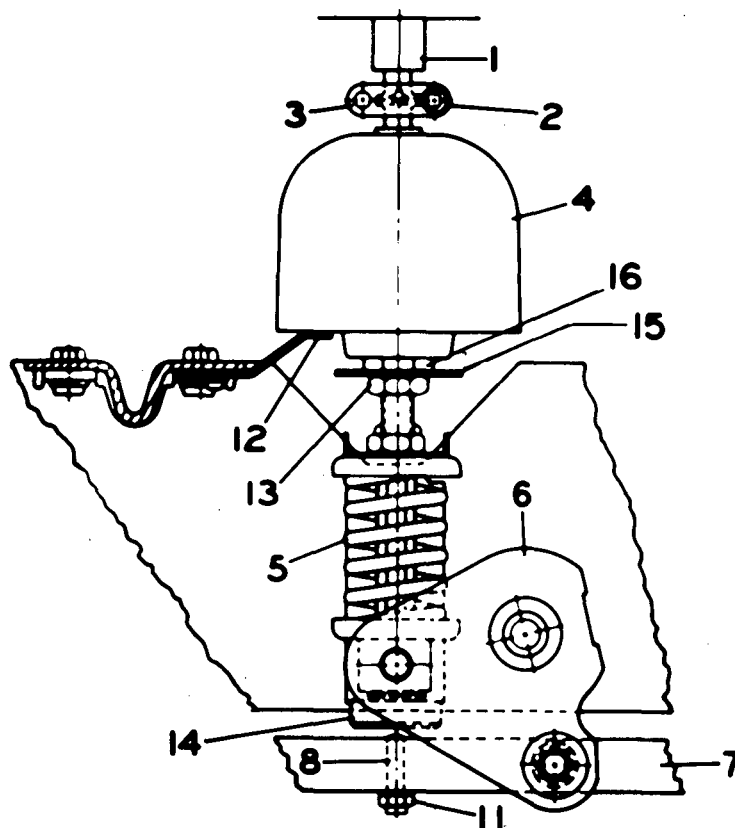

Fig. 12 Primary Contact Gap and Erosion Indication
To adjust, loosen the locking nut, (53) Fig. 4 ($\frac{3}{4}$ hex) holding the stop bolt to the horizontal connecting bar, and then unscrew the stop bolt ($\frac{3}{4}$ hex) to decrease latch clearance while pushing the manual trip push button in and out until the trip roller just starts to turn. (NOTE: Before making adjustments to the trip latch clearance the overtravel stop bolts, (8) Fig. 12, should be backed out of the horizontal connecting bar two turns.) Now, screw in on the adjusting bolt until the roller no longer turns plus an additional $\frac{1}{4}$ turn. Torque the lock nut to 55 foot-pounds while holding the adjusting screw. This sets latch clearance at a minimum and any mechanism wear will tend to increase the clearance. When 0.060 inch clearance is reached readjustment will be required.
Refer to Fig. 12. Six adjustable bolts, (8) are threaded into the horizontal connecting bar to provide stops for each pole to prevent overstroking the Power/Vac* interrupters. Each of these bolts should be backed out of the horizontal connecting bar two turns prior to performing adjustments to
Wipe is the additional compression of the pre-loaded wipe spring, (5) Fig. 12, which is used to apply force to the closed vacuum interrupter contacts. Proper adjustment of the wipe springs is necessary to assure that the vacuum interrupter contacts will stay closed against the forces which tend to open them due to fault currents and to supply the propelling energy required to attain the correct opening speed needed for a clean interruption of the current.
- (3) Measure the position of the Operating Rod (4) Fig. 12, relative to the breaker frame. Measure all three phases. (SUGGESTION: place a piece of masking tape vertically on the operating rod and using a block (approx. 2" height) that spans the frames draw a line on the tape to indicate the position when the breaker is closed. Leave the tape in place and in step 6 draw another line on the tape when the breaker is opened. The distance between these lines is the gap for that phase.)
- (4) Remove the trip latch blocking bolt installed in Step 1 and open the breaker by pushing the manual trip push button.
- (5) Repeat Step No. 2 to measure the position of the wipe indicator with the breaker open. Subtract the two measurements of the screw length to obtain the wipe of each phase.
- (6) Repeat Step No. 3 to measure the position of Operating Rod with the breaker in the open position. Subtract the two measurements to obtain the vacuum interrupter contact gap for each phase. (If the suggestion in Step 3 was followed, remove the tape from the operating rod, place it on a flat surface and measure the gaps directly as the distance between the two lines on the tape.)
- (7) Compare the wipes and gap measured with the following chart:
3. Loosen but do not remove the $\frac{1}{4}$ " hex bolts holding the coupling clamp, (2) Fig. 12. Be sure that the clamp can be rotated freely by hand.
4. Hold the hexagon projection at the bottom of the Operating Rod ($1\frac{1}{8}$ " wrench) and loosen the adjacent lock nut (13) Fig. 12 ($15/16$ " wrench).
6. After completing the adjustment, torque the Operating Rod Locknut, (13) Fig. 12, to 40-50 foot-pounds while preventing the Operating Rod from turning. Tighten the coupling clamp screws to 10-12 foot-pounds.
In the closed position, the indicator disc, (15) Fig. 12, below the operating rod is aligned with a reference arm (12) on new interrupters. With the breaker in the closed position, the indicator disc after inservice fault interruptions will move upward from alignment with the reference point due to contact erosion. Contact erosion will decrease the wipe which may be brought back to normal by performing wipe adjustment. When erosion reaches $\frac{1}{8}$ inch (the misalignment of the indicator disc and the reference arm with the breaker closed) the interrupter should be replaced.